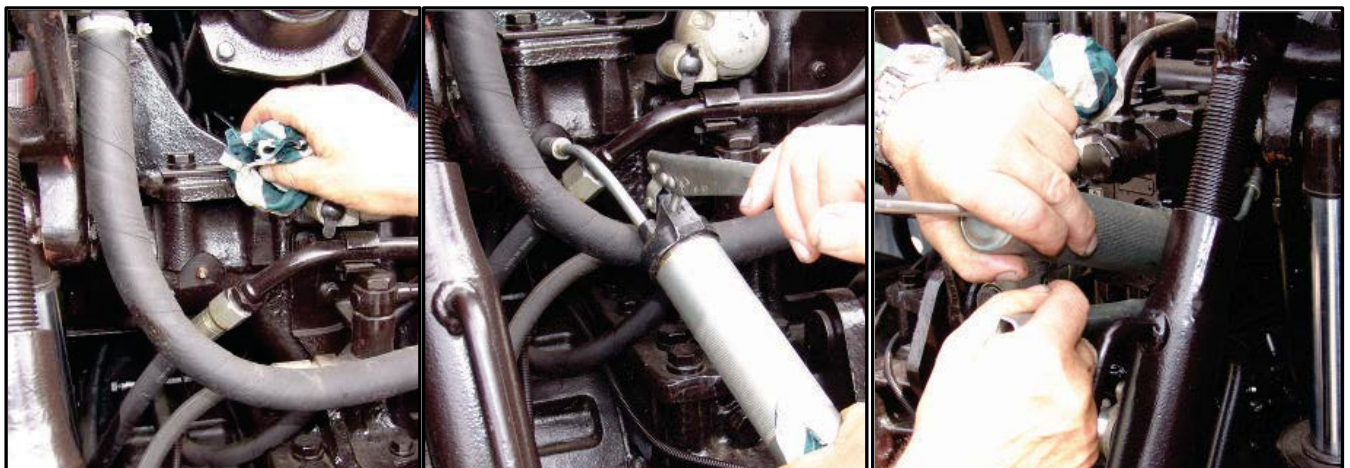

Figure 8.61
**Procedure 53. Greasing the Bushings of the Turn Shaft of the Rear (Front) Hitch Linkage and of the Hauling Mechanism (fig. 8.61)**